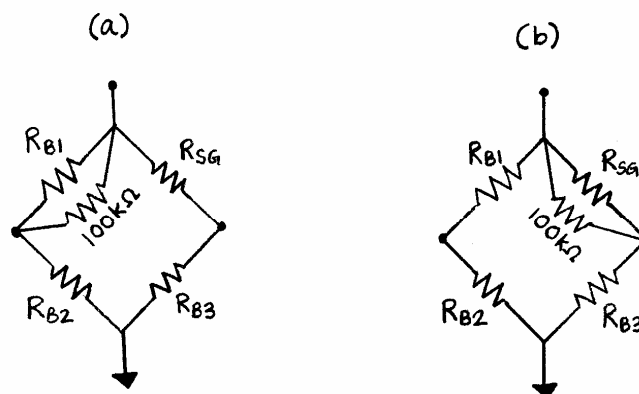

Figure 6. Addition of a parallel resistor to alter DC bias
6. If the DC bias V_{DC} in your circuit is **outside** of the range 125-175 mV, proceed as follows. Place the ruler flat on your table. Connect a 100 k Ω resistor in parallel with R_{B1} as shown in Figure 6(a). The DC bias should move either closer to or further away from the 150 mV mark. If the DC bias moves away from 150 mV, switch the 100 k Ω resistor so that it is connected in parallel with the strain gage R_{SG} as shown in figure 6(b). If adding a 100 k Ω resistor does not improve your DC bias, try using a 200 k Ω resistor instead. **Record the DC bias produced by this circuit.**
4. In Experiment #1, explain why connecting a parallel resistor as shown in Figure 6 allows you to move your DC bias.